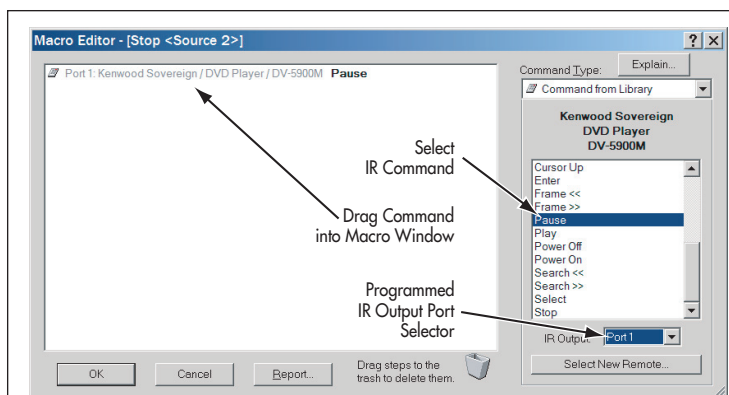

Figure 45:
6. Select the desired command in the list and drag it to the screen's large MACRO window. (In this example, the PAUSE command — see Figure 45).